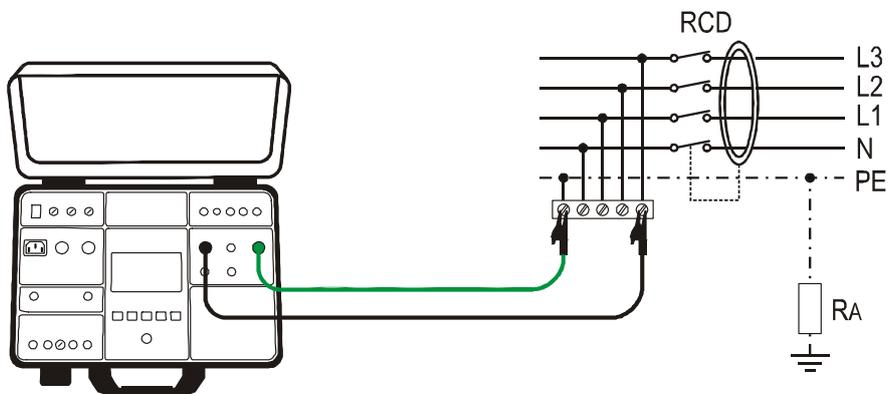

Figure 27: Connection of test leads to tested wiring for LOOP L/PE measurement
- 5) Carry out the measurement by pressing the **START/STOP** button. Test result will be displayed after elapsing measurement time in green colour equipped with green  symbol and with beep-beep sound if it is lower than or equal to limit value (see the explanation of limit value above). If the result is higher than limit value, then it will be displayed in red colour equipped with red  symbol and with longer beep sound. See the display outlook with test result on the figure 27.